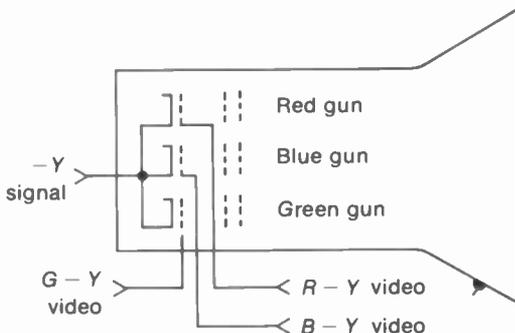

FIGURE 17-23 MATRIXING IN THE PICTURE TUBE.
Matrixing means combining or adding signals. An example is adding  $R - Y$  and  $B - Y$  to form  $G - Y$ . The most important application in the receiver, though, is matrixing the color-difference signals with  $Y$  video to form the red, green, and blue video signals needed for the three guns of the picture tube. This matrixing for  $R$ ,  $G$ , and  $B$  can be done either in the picture tube or in the color video circuits. Examples are shown in Figs. 17-23 to 17-25.
**Matrixing in the picture tube.** This method in Fig. 17-23 is commonly used with vacuum tube amplifiers. The control grid of each gun in the picture tube has  $R - Y$ ,  $B - Y$ , or  $G - Y$  video signal. All three cathodes have the same  $-Y$  video signal. The polarity is negative for  $Y$  signal at the cathode because the effect of cathode voltage on beam current is opposite that of grid voltage. Effectively, then, each grid has  $R$ ,  $G$ , or  $B$  video signal to control beam current for the color information, as the  $Y$  component in the color signal at the grid is canceled by the  $Y$  signal at the cathode. Algebraically, the matrixing